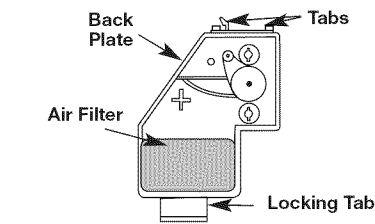

Fig. 25
2. Remove the air filter (Fig. 25).
6. Replace the filter (Fig. 25).